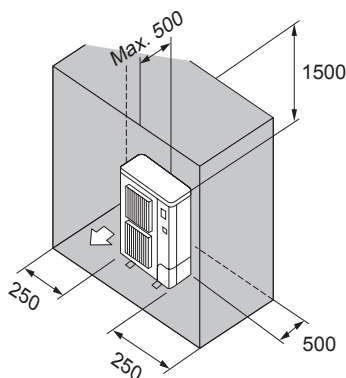

Fig. 3-11
- Obstacles at rear, sides, and above only (Fig. 3-11)